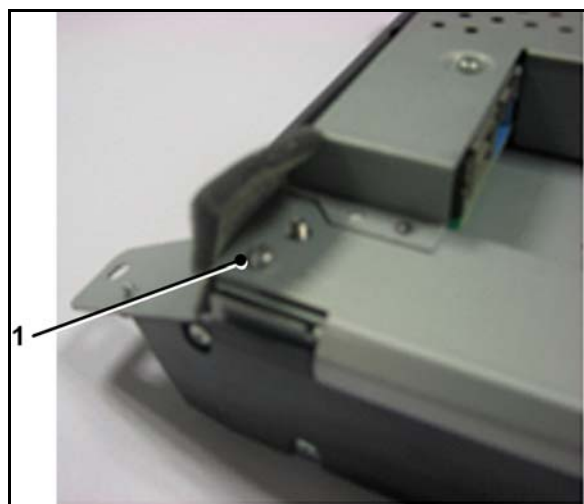

Figure 7
7. Peel the foam pad (arrowed) away from the bottom bracket (2) to get access to the third M3 screw (1) (see Figure 7)
8. Remove the M3 screw (1) (see Figure 7).